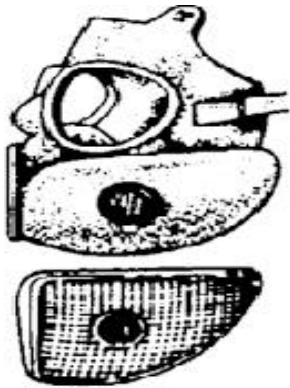
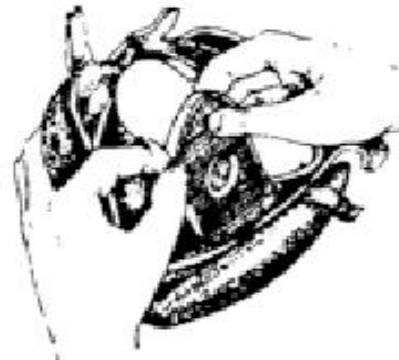

Figure E-58. Match filter with mask.
Figure E-59. Install filter.
(1) Check the filter elements against the outside of the cheek pouches to be sure you are installing them correctly (figure E-58). Filter elements are marked either right or left.
(2) Hold the filter element by the square corner with your fingers on the connector side.
(3) Pull the lower pouch flap outward just enough to open the cheek pouch.
(4) Insert the curved edge of the filter into the pouch with a slight turning motion.
(5) Push the filter up into the pouch (figure E-59).